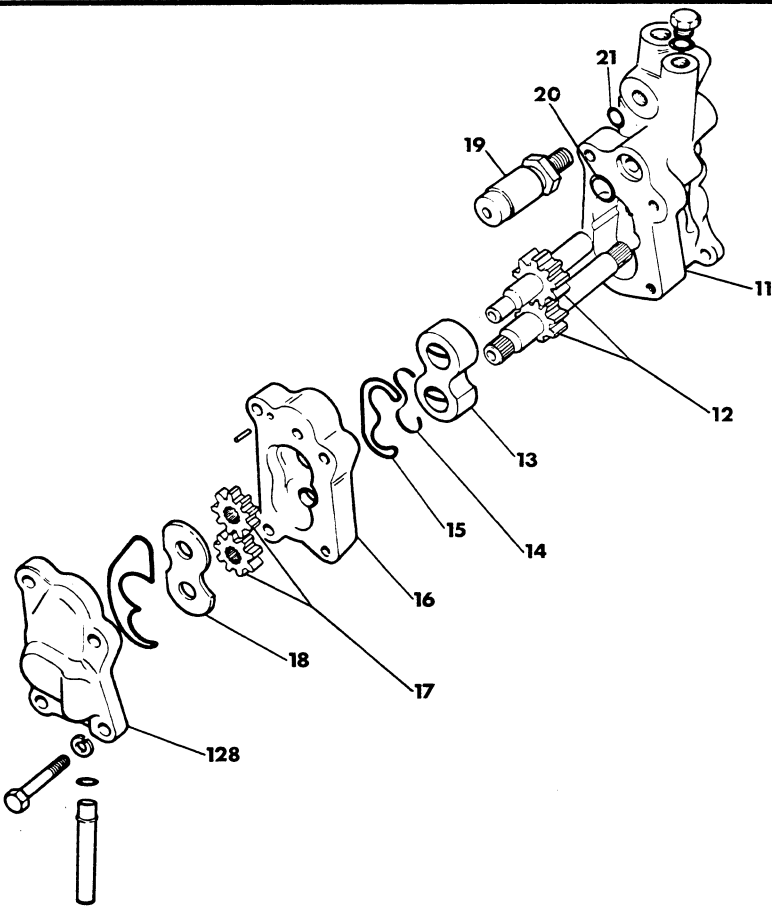

FIG. 4
2. Fig. 4. Remove the bearing plate (18).
4. Remove the body (16), complete with the gears (17) rubber seal (15) and P.T.F.E seal (14).
5. Remove the 'O' ring (20).
6. Remove the floating bearing (13) and the gears (12) from the body (11).
7. If necessary, remove the main relief valve (19) and the 'O' ring (21).
2. Fig. 4. Fit the gears (12) in the pump body (11).
3. Fit a new 'O' ring (20) to the pump body (11).
4. Fit the floating bearing (13) with its machined recess adjacent to the gears and the relieved radii on the outlet side of the pump. Check that the floating bearing is 0,05 to 0,13 mm (0.002 to 0.0055 in) below the face of the pump body.
5. Fit a new seal (15) to the centre body (16), then fit the new P.T.F.E. seal (14) between the OUTER edge of the rubber seal and the pump body.
7. Refit the gears (17) on the shafts, aligning the marks on the shaft.
8. Refit the bearing plate (18) ensuring that the machined recess is adjacent to the gears. Check that bearing plate is 0,05 to 0,18 mm (0.002 to 0.007 in) below the face of the centre body.
9. Refit the pressure relief valve (19) using a new 'O' ring (21).